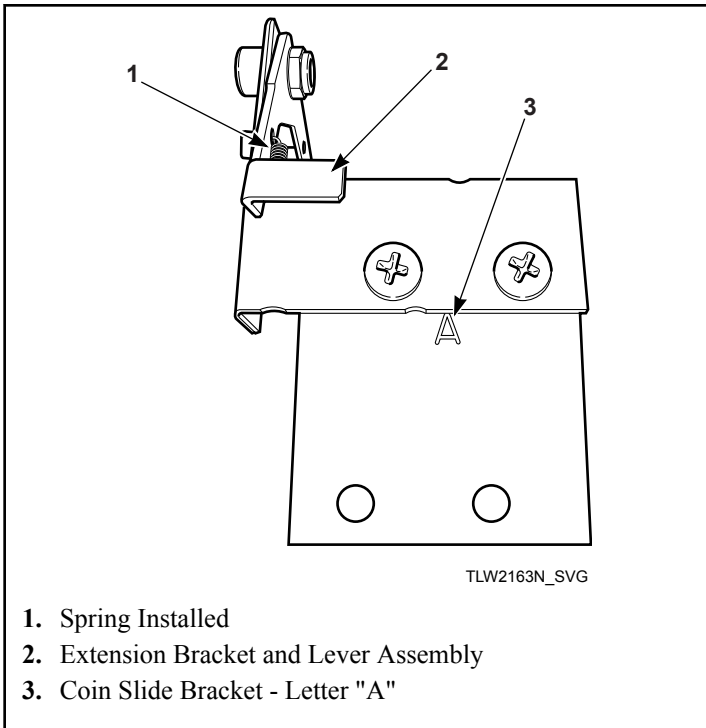

Figure 19
5. Install extension bracket and lever assembly onto coin slide bracket using two screws and locknuts. Refer to *Figure 19*.
IMPORTANT: Install coin slide bracket with side marked “A” facing up and toward extension bracket and lever assembly. Refer to *Figure 19*.